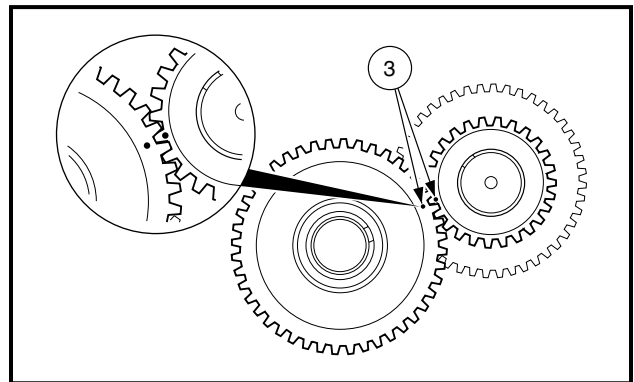

Figure 3-95 Align Timing Marks between Camshaft and Crankshaft
3. Align the timing marks (3) (**Figure 3-95, Page 3-43**). **See following NOTE.**